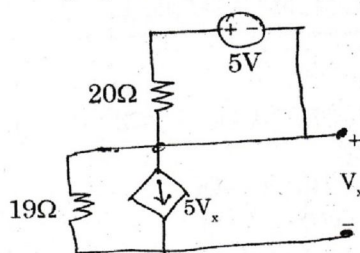

Fig. Q. 12. b).
- b) Determine Thevenin's and Norton's equivalent circuit of the network shown in Fig. Q. 12. b).